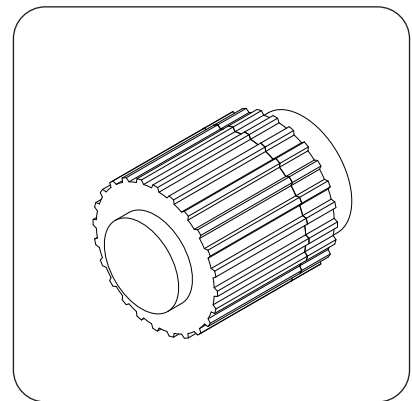
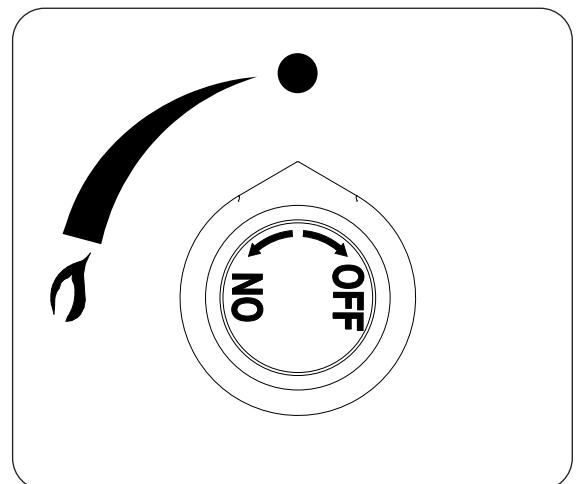

Fig. 45-1 Igniter button detail
Fig. 45-2 Control knob detail
2. Locate the control panel on the side of the unit (refer to the IDENTIFICATION PARTS LIST if needed), and identify the igniter button (Fig. 45-1) and gas control knob (Fig. 45-2). Ensure the gas control knob is in the OFF position before beginning the lighting sequence.
**To extinguish your gas burner**, turn the gas control knob clockwise to the **OFF** position (see Fig. 45-2). Be sure the control knob is turned fully off to avoid any gas leakage.